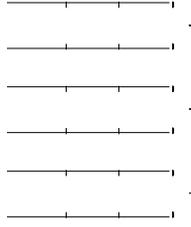

Figure 3
- 4.** Tie the tubing to the wire mesh or rebar using Wirsbo wire ties and wire twister. Secure the tubing to the wire mesh or rebar every four feet along straight runs. At the 180° turns, tie the tubing at the top of the arc and once on each side, 12" from the top of the arc (see Figure 3), to prevent it from dislodging or floating into the pour.